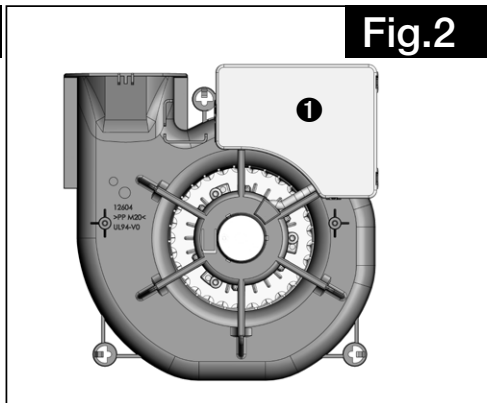
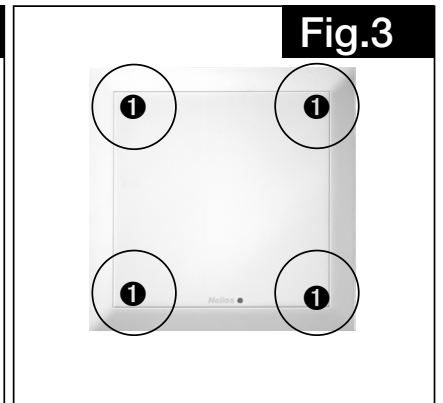

Fig.2
Fig.3
- Place the smartphone directly on the PCB cover (see Fig.2, contact point ❶) of the uninstalled ELS NFC.. unit.
- Place the smartphone on the facade cover (see Fig.3, contact point ❶) of the installed ELS NFC.. unit (refer to the position guide for the contact point). If contact cannot be established, refer to Fig.2/Fig.3 and description 4.2.1 points 1. to 4.).
Depending on the installation position (air discharge direction), there are four possible positions for the contact point ❶ (see Fig.3). The contact point ❶ is located above the electronics (see Fig.2).
Place the smartphone on the contact area ❶ (see Fig.3) and connect it to the ELS NFC.. If NFC contact cannot be established, remove the filter (refer to point 2.).
Hold/place the smartphone flat on the contact point ❶ (see Fig.3/Fig.7). If the measures in points 1 and 2 are not sufficient, the fan unit must be dismantled („6.6 Disassembly of fan unit“ on page 20).